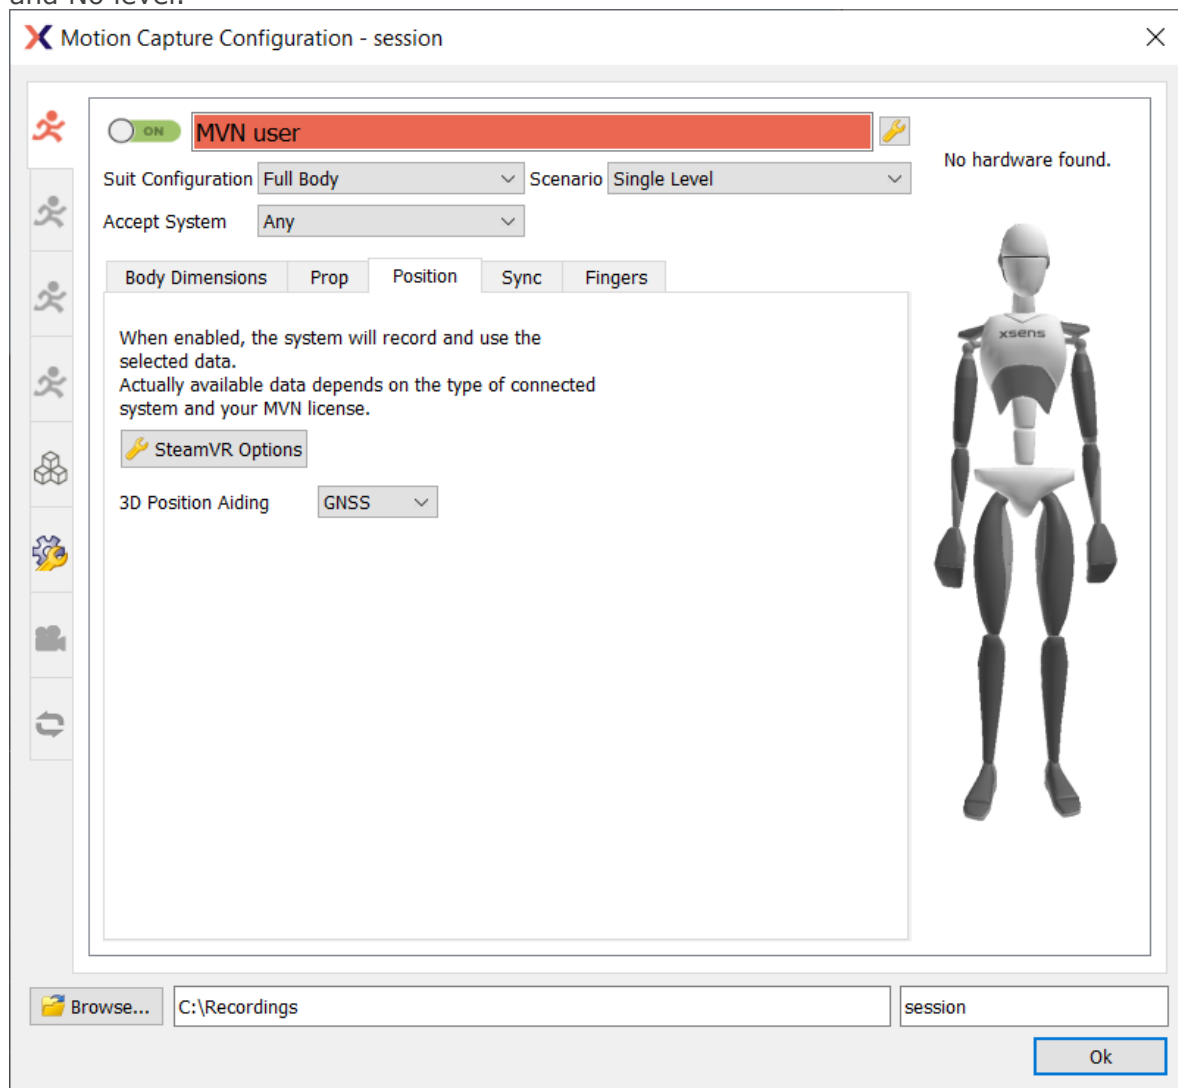

Figure 75: Position tab in the Motion Capture configuration
When configuring a new session, open up the Position tab (Figure 75) and select the GNSS option. When this is enabled, the system will record and use the data collected from the GNSS antenna. The scenario can be set to 3 scenario's: Single level, Multi level and No level.
3. Follow the normal procedure in setting up a system. To enable positional aiding go to the Position tab (Figure 75)